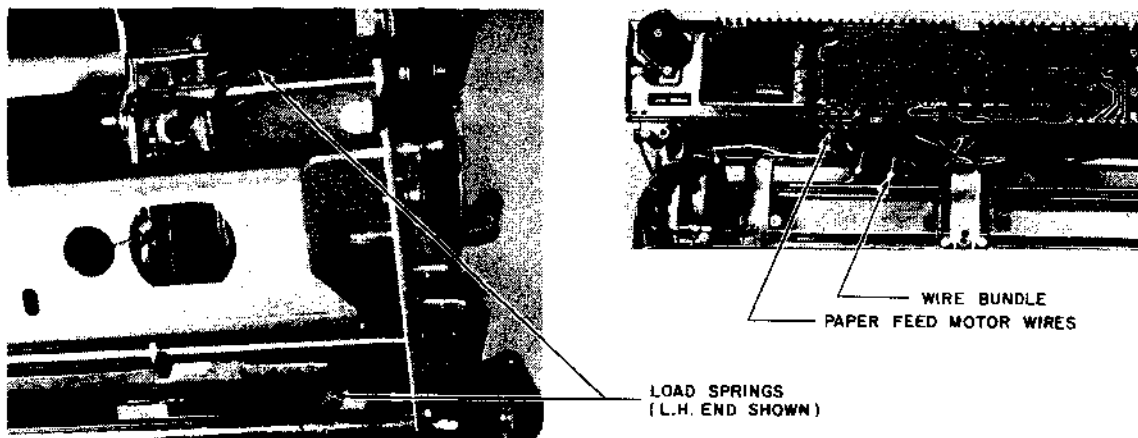

Figure 5-6 CARRIER SYSTEM REMOVAL - A
3. Dismount the Cover Open switch and bracket, if installed. Stand the printer up on the front end of its main frame. Use the T-Handle Spring Hook #99009 to disengage the 4 Carrier System load springs from the printer's main frame (2 long springs in front and 2 shorter springs in the rear). Open the wire bundle and disconnect the 4 paper feed motor wires from the Motherboard PCB. Refer to Figure 5-6.